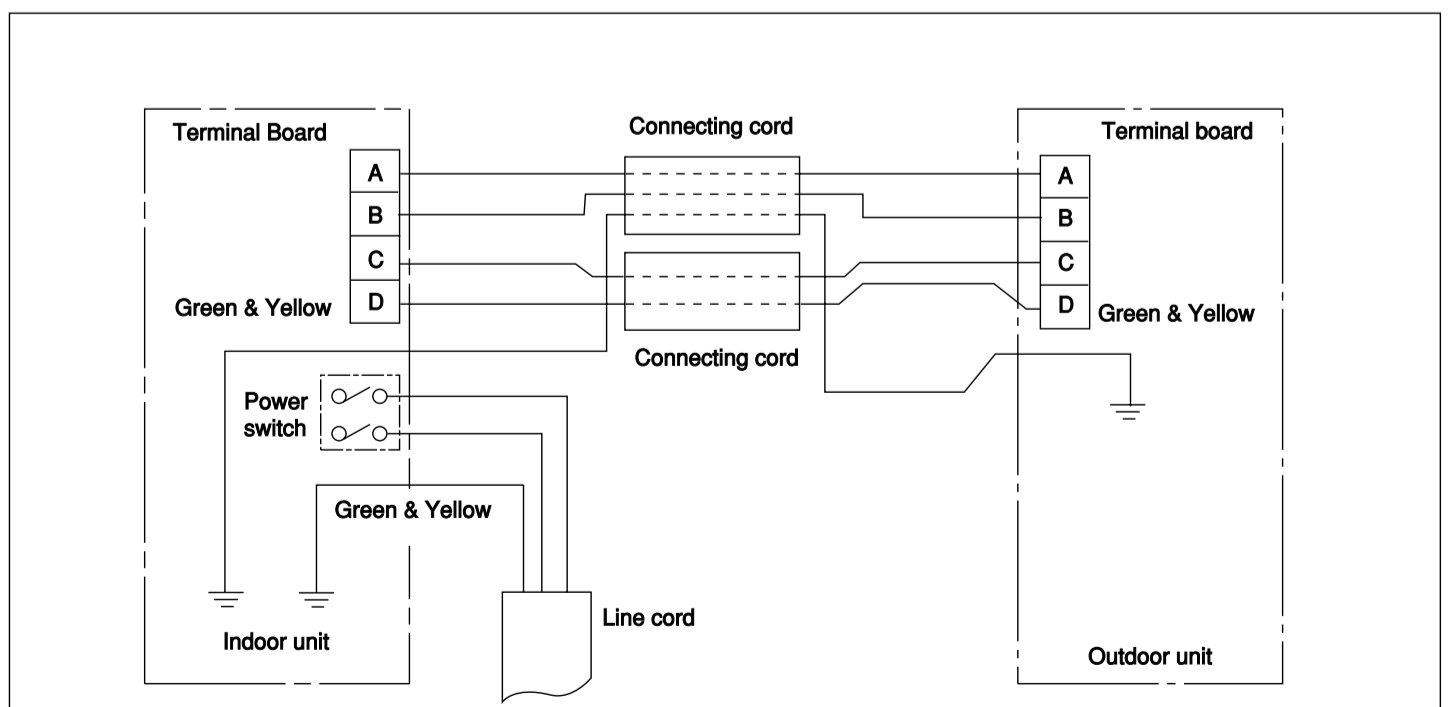

Fig. 3-11
- (1) Connect the electrical wiring between the indoor and outdoor unit as shown in Fig. 3-11. Never connect the wiring by mistake.
- (2) The connecting cord must be fixed by the band which is located on the electrical box.